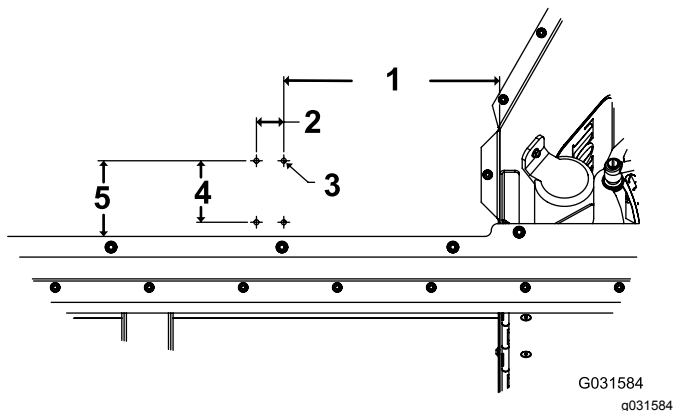

Figure 6
1. Drill 4 mounting holes (7 mm or 9/32 inch) on the side of the hopper. Refer to Figure 6 for the drilling dimensions.